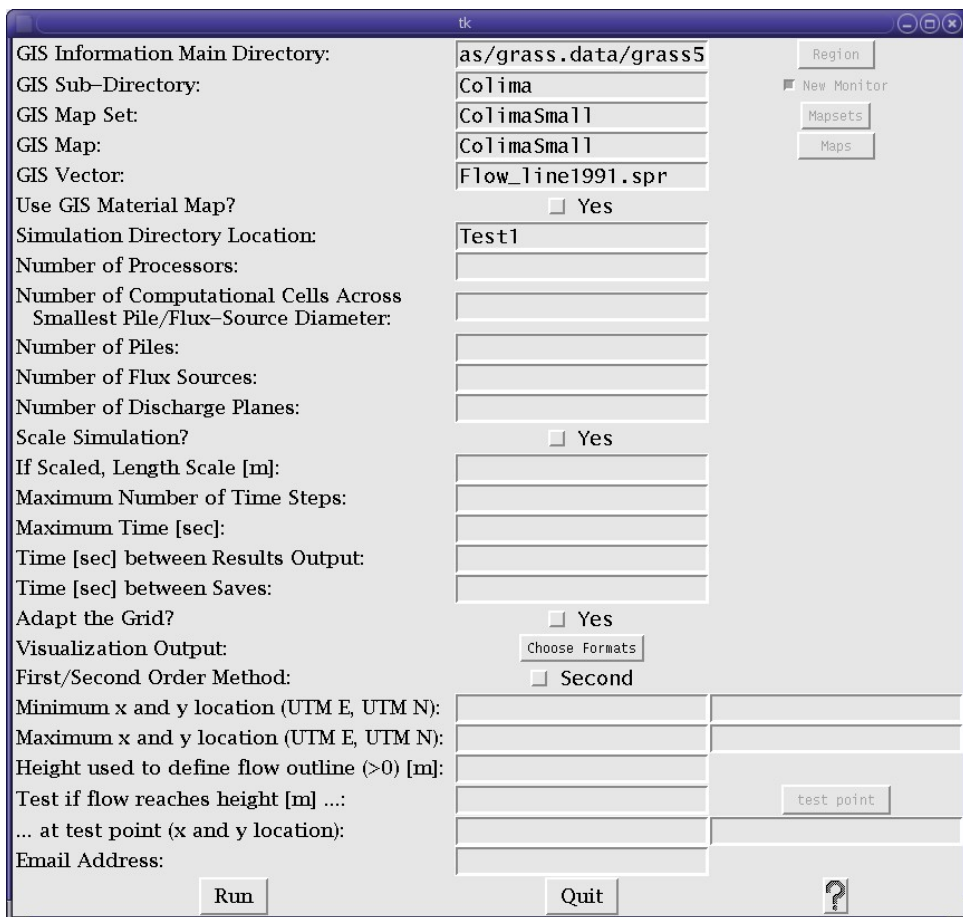

Figure 3.2: Entering GIS data into Graphical User Interface
- The **GIS Map Set** and **GIS Map** point to the DEM dataset that the user chooses to use in the simulation. The “GIS Map” must be found within the “GIS Map Set” Directory. Enter the names of both into the appropriate box on the GUI (see figure 3.2). If using TITAN2D through the GRASS interface, follow the directions in Section 3.4.2.
- The Simulation Directory Location specifies the directory where the output data files will be stored (see Figure 3.2). A directory must be specified in this box. If the specified directory already exists, it will not be overwritten and data will not be submitted for processing. The specified directories are found relative to the “/computer\_name/home/username/directory\_name /titan/bin/” directory. For example, the directory path to the simulation directory shown in fig. 3.2 would be “.../titan/bin/Test1/” and the specified directory would be “Test1”. Every time the simulation runs, a new simulation directory must be created.